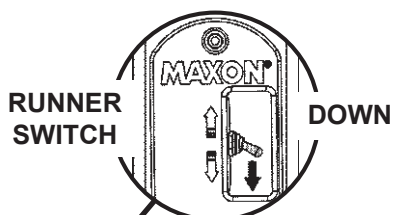

FIG. 25-1A
1. Use runner switch (**FIG. 25-1A**) to lower platform to the ground (**FIG. 25-1**). Release switch when platform reaches ground level.